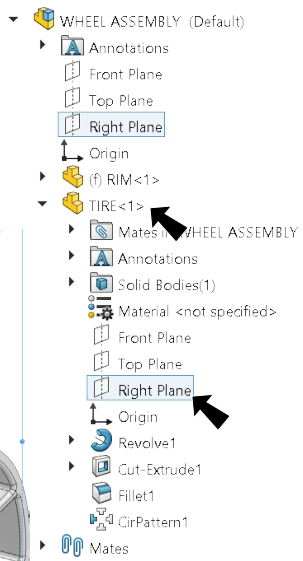

Fig. 4
Step 2. Expand the flyout Feature Manager design tree (click ) in the top left corner of the graphics area, expand **TIRE** and click **Right Plane** , **Fig. 4**.